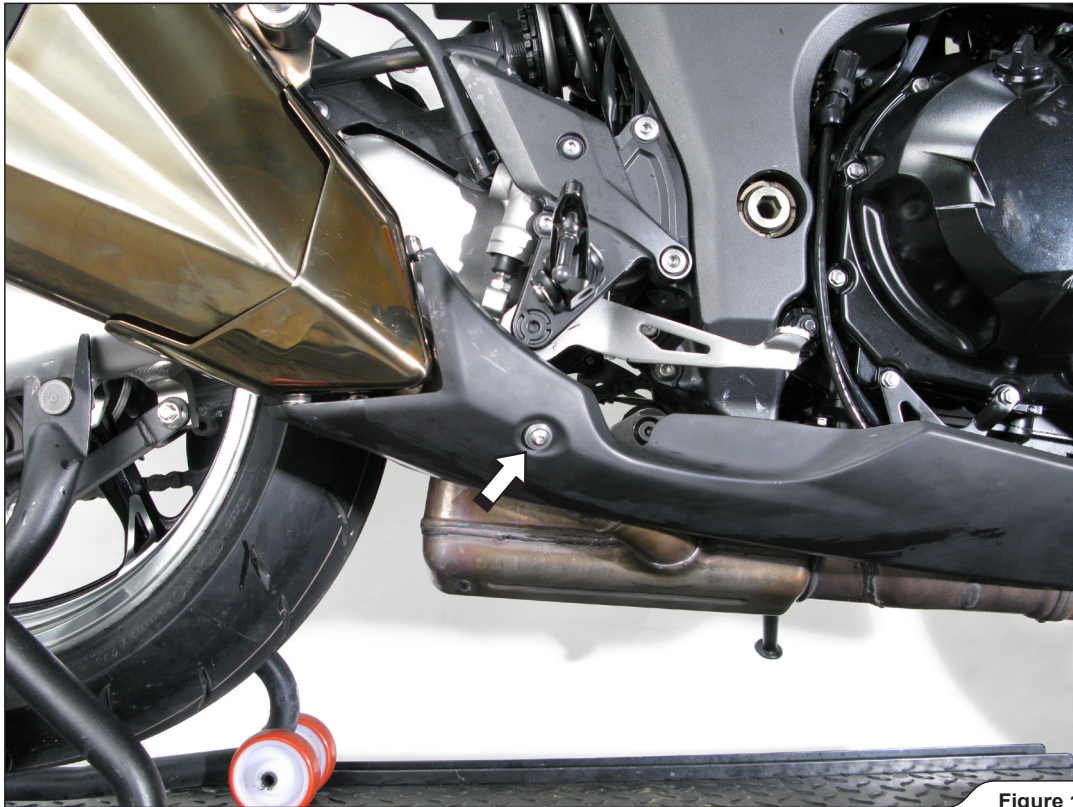

Figure 1
2. Unscrew the marked bolt and remove the right side muffler heatshield (**Figure 1**).